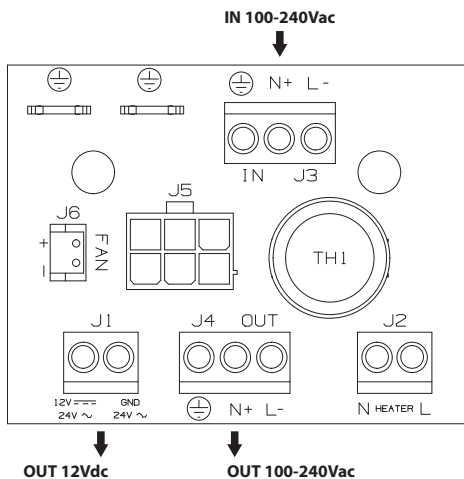

Fig. 02
Insert the 6 poles connector of the power supply cable (04) in the corresponding connector (05) on the circuit shown as J5 (Fig. 02).